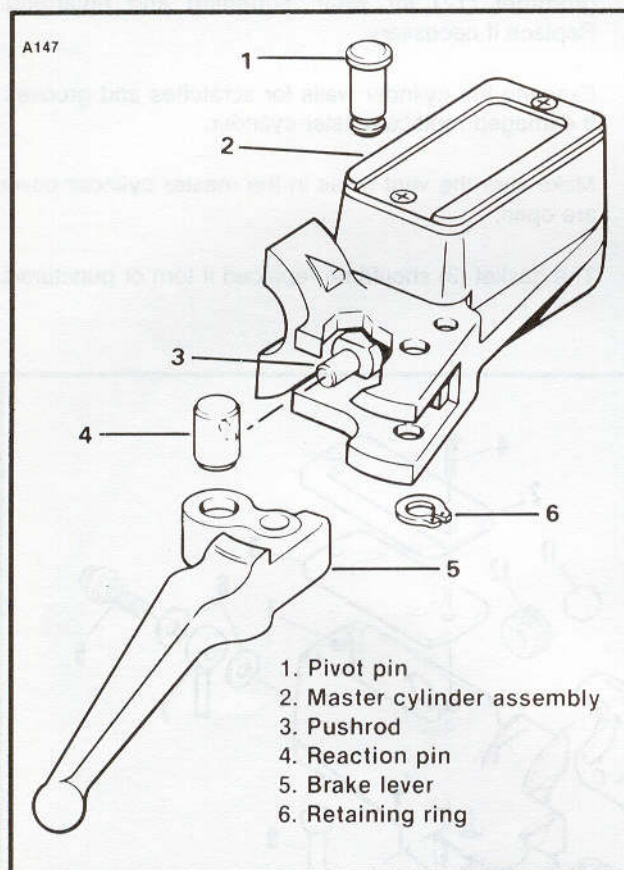

Figure 2-37. Front Brake Hand Lever
3. Install spring (15) and cup (16). Assemble piston (17) with O-ring (18), dust boot (19), and push rod and switch (20).
4. See Figure 2-37. Lightly coat reaction pin (4) with Loctite ANTI-SEIZE and insert it into the large hole in the brake lever (5). Assemble the brake lever (5) to the master cylinder assembly (2) using pivot pin (1) and retaining ring (6). Be sure the push rod (3) fits into hole in reaction pin (4). Check front brake lever for proper operation.